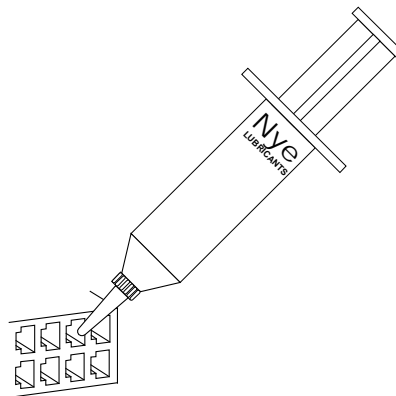

Figure 2
4. **Lubricate** each terminal using Nye® 760G lubricant as shown in figure 2. Apply enough lubricant to each terminal opening to completely fill each opening to a depth of .125” maximum.